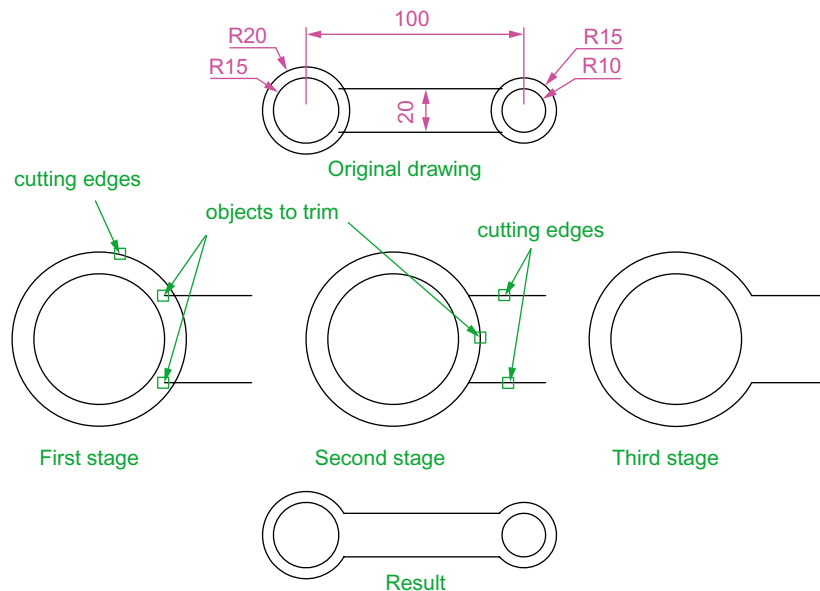

Fig. 5.31 First example – Trim
First example – Trim (Fig. 5.31)
1. Construct the drawing **Original drawing** in Fig. 5.31.
3. This completes the **First stage** as shown in Fig. 5.31. Repeat the **Trim** sequence for the **Second stage**.
4. The **Third stage** drawing of Fig. 5.31 shows the result of the trims at the left-hand end of the drawing.
5. Repeat for the right-hand end. The final result is shown in the drawing labelled **Result** in Fig. 5.31.